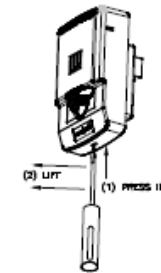

Figure 6: Removal (See step 5)
- To remove the appliance, insert a small flat-bladed screwdriver into the bottom opening 1/2" as shown in Figure 6. Then pry off beauty cover with the screw driver and then unscrew device.